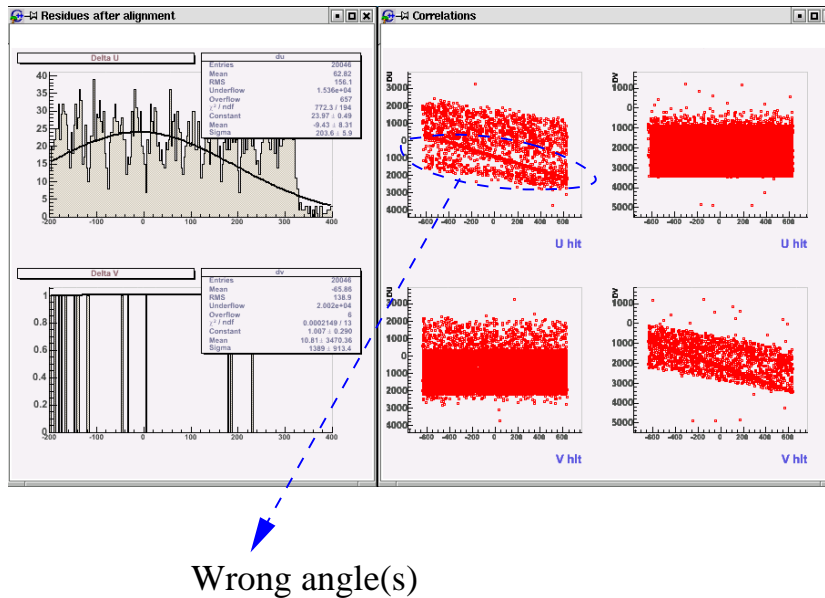

FIG. 4 – Mimosa Alignment (1) : Bad alignment
- To help you the correlation plots between U,V position and residuals DU and DV are shown in microns (see figures 4 to 8). You should get no correlation on all these plots (i.e. an horizontal distribution). a shift of this line indicates a bad X or Y parameter whereas a non horizontal line indicates a bad angle th0 or th1 (th2 is always near 0). On the left plots, when you get a residual like a gaussian centered on zero, it means that you are close to the right alignment.